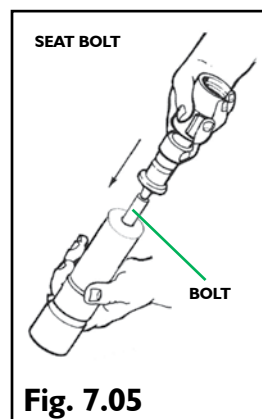

Fig. 7.05
- 2.1 Push bolt back into the barrel using the domed end of the pull. (See Fig. 7.05)